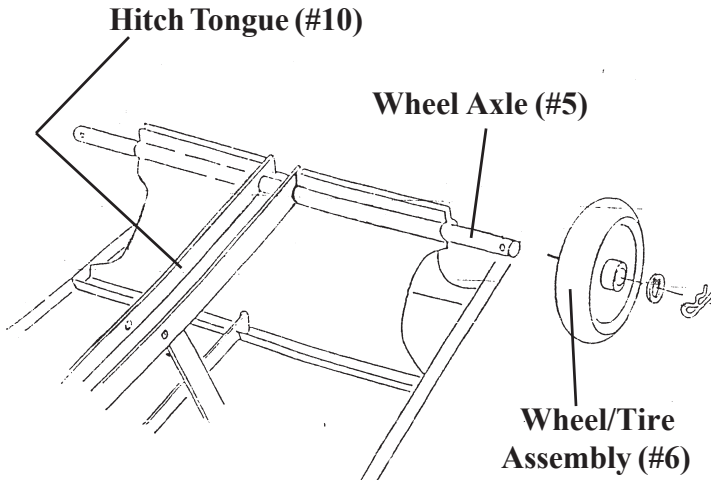

Figure 6
Step 6: As shown in Figure 6, put the Hitch Tongue in place and insert the Wheel Axle (#5) through the Wheel Axle Support (#4). Install the 2 Wheel/Tire Assemblies (#6) with Washers (#26) and Cotter Pins (#27).